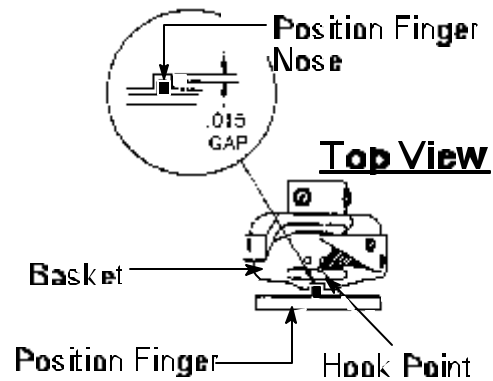

Figure 7
- 80 Move Position Finger Nose **forward or back** from hook basket allowing enough clearance for thread to pass between easily. See Figure 7.